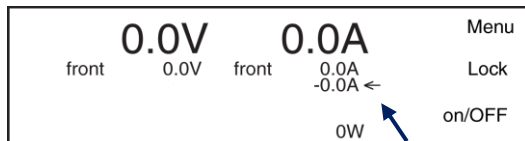

Figure 7.16: When the arrow appears behind the negative current settings, the sink current can be adjusted with the A-knob at the front panel.
- Set the function of the A-knob via Menu > Configuration > Front Settings > Knobs: here select 'Iset-' or 'Iset+'. In the display the arrow behind the value for the current changes position. See Figure 7.16.